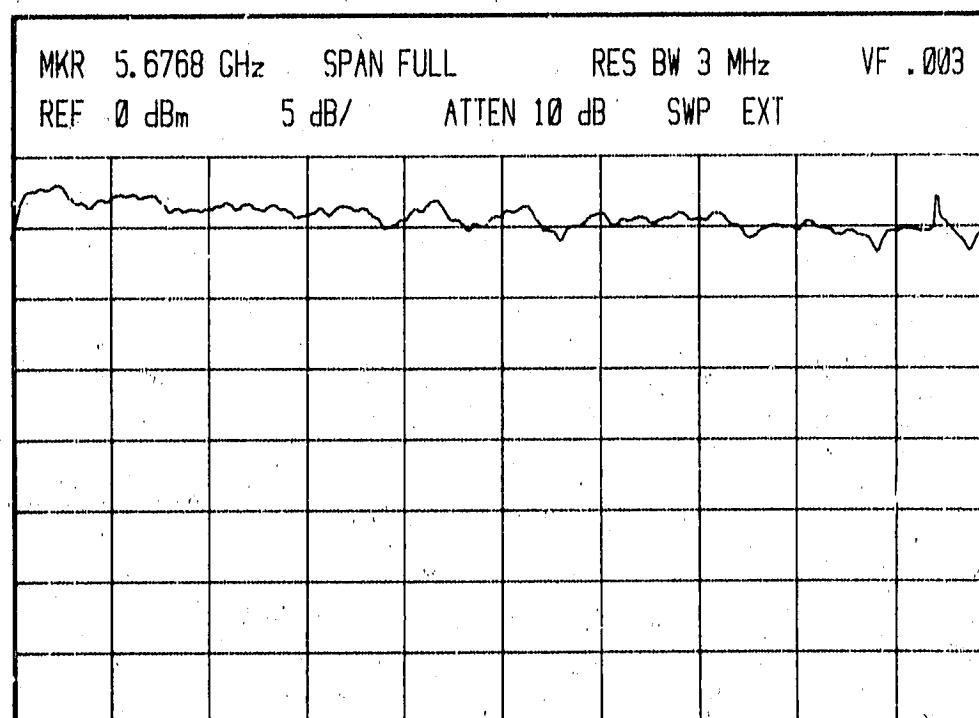

Figure 5-48. Phase Locked Spectrum Analyzer CRT Display
- d. Set sweep oscillator to automatic sweep mode and check for phase locked spectrum analyzer CRT display (Figure 5-48). If system is breaking phase lock, adjust start and stop frequencies during slow sweep ( $\geq 10$  seconds) to obtain phase lock. Set TRACE A and TRACE B to WRITE.